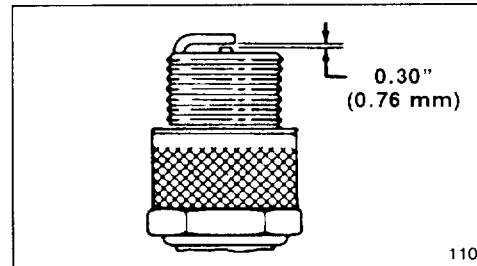

Figure 37
3. Set air gap between electrodes of new spark plug at 0.030" (0.76 mm) (Fig. 37). Next, install spark plug in cylinder head. Tighten plug to 15 ft-lb (20.4 N-m).